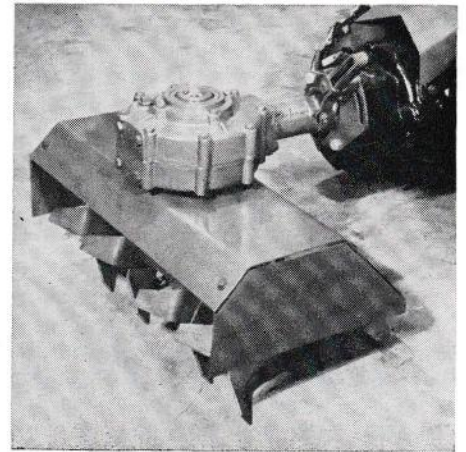

Figure 37
6. Rotate the Cultivator to the position shown in Figure 37. In this position the Tines will cut in the same direction (clockwise) as the forward movement of the Tractor.